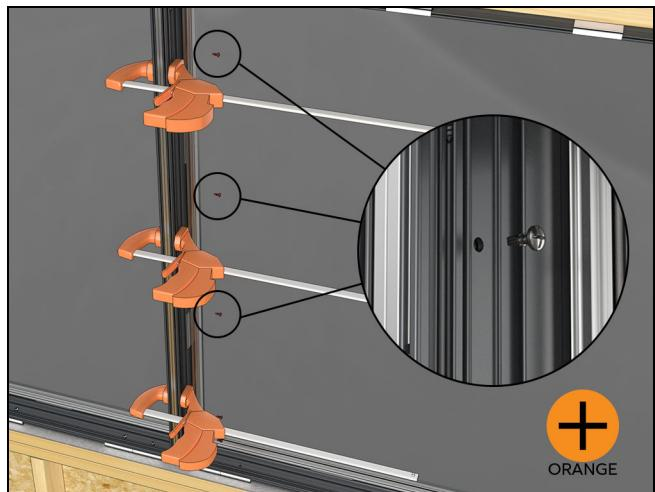

Figure 30
2. Fasten at each pre-drilled hole location with the #8 x 7/16" Phillips head self drilling screws provided. See Figure 30.